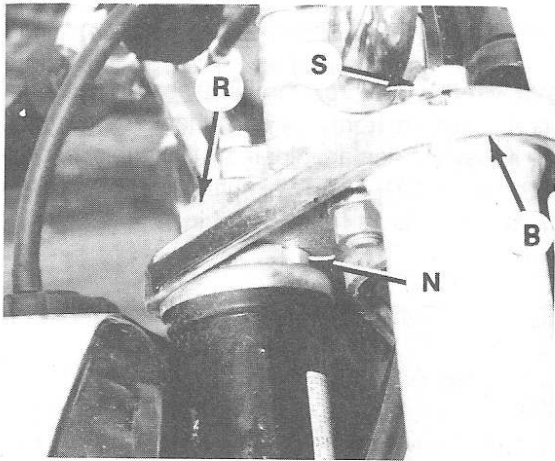

Fig. Y4-14—View of steering head assembly. Rotate slotted nut (N) to adjust steering play.
Adjust steering as follows: Loosen steering stem retaining nut (R—Fig. Y4-14). Rotate slotted steering stem nut to remove steering play (tighten nut) or remove binding (loosen nut). Do not over-tighten nut as binding will occur and bearings may be damaged. Do not loosen nut excessively as bearing balls may fall out. Tighten steering stem retaining nut (R) to 34 N·m (25 ft.-lbs.). Recheck steering play.
**OVERHAUL.** To separate the steering stem and fork assembly from the frame's steering head, proceed as follows: Remove the front wheel and axle assembly, headlight and front fender. On YT175J and YT175K models, loosen the clamp screws and remove the fork legs. Remove the handlebars. Remove bracket retaining screws (S—Fig. Y4-14) and steering stem retaining nut (R). Lift off steering bracket (B). Unscrew steering stem nut (N) and separate steering stem from steering head while being careful not to lose bearing balls which are now free.